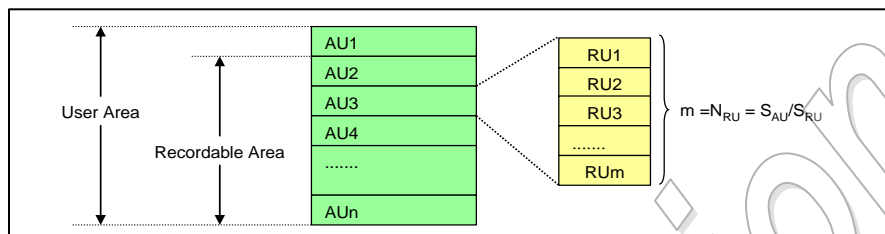

Figure 4-47 : Definition of Allocation Unit (AU)
4.13.1.1 Allocation Unit (AU)
The User Area is divided into units called "**Allocation Unit (AU)**" (Refer to Figure 4-47). AU is physical boundary in User Area of a card and is not defined by the file system boundary. Each card has its own fixed **AU Size (S_{AU})** and the maximum AU Size is defined depending on the card's capacity. The host
4.13.1.2 Recording Unit (RU)
Each AU is divided into units called "Recording Unit (RU)" (Refer to Figure 4-47). The unit of **RU Size (S_{RU})** is 16KByte. The RU Size is a multiple of 16KByte and shall not span across an AU boundary. Larger RU size may improve performance. The condition and requirement of the minimum RU Size is defined by Section 4.13.1.8.1. **The number of RUs in an AU (N_{RU})** is calculated from S_{AU}/S_{RU}.